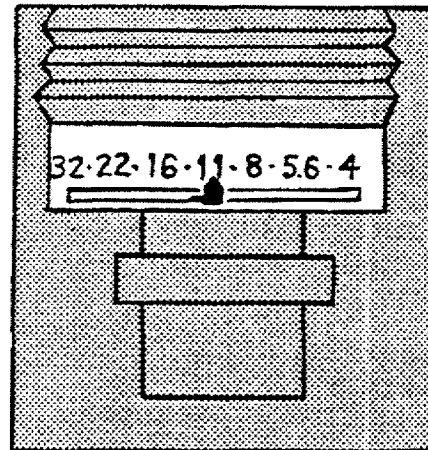

Figure 1-8. Aperture Selector Pointer.
e. Aperture Selector Pointer (fig 1-8) indicates working aperture which is printed on the aperture index scale.